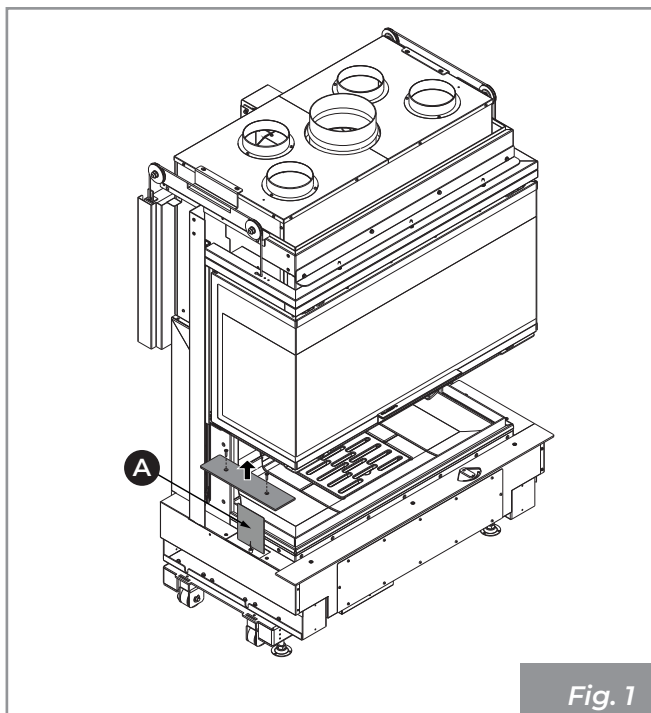

Fig. 1
The serial plate (A) is located under the cover profile of the ecomonoblocco (accessible by loosening the three screws and lifting the profile) (Fig. 1) and shows all the characteristic data relating to the appliance, including the manufacturer's data, the serial number and the brand **CE**.